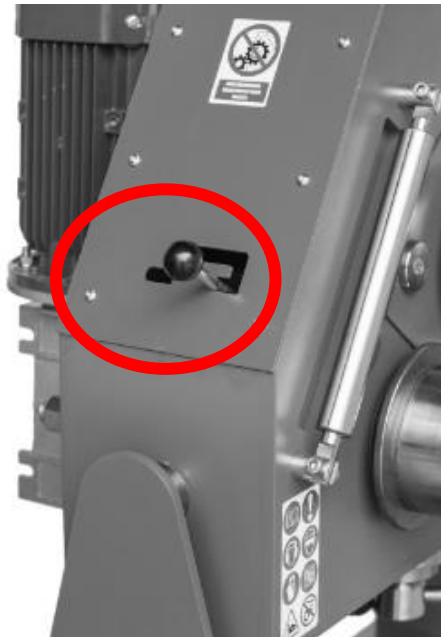

Fig. 13. Handle deactivating the drive of the top roll: position for disengaged top roll drive
3. Switch the handle of the top roll drive to the position indicated in figure 13.